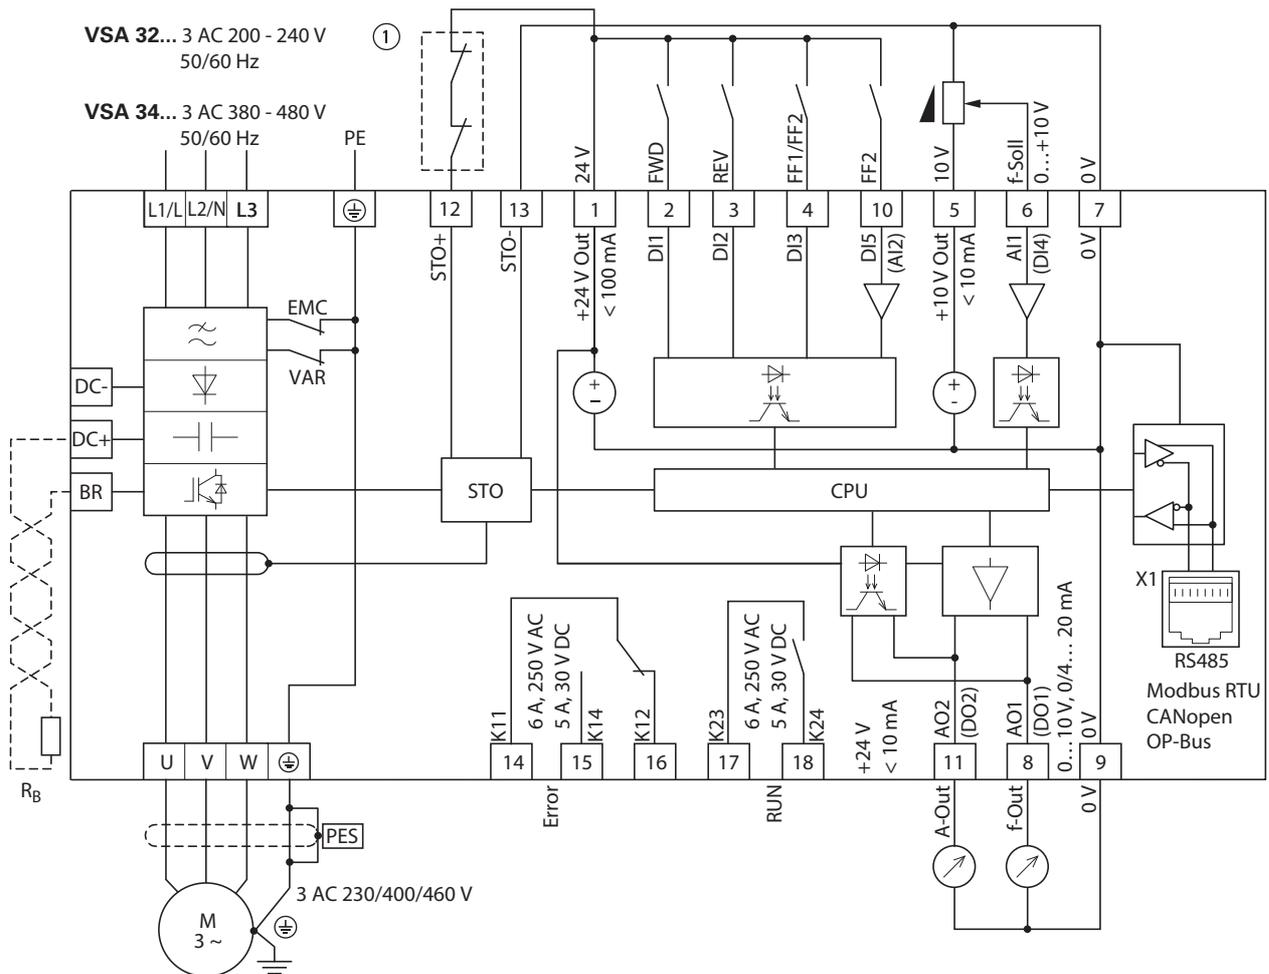

Figure 82: Block diagram for VSA 32..., VSA 34..., FS2 and FS3 frame sizes
① Direct enable signal for STO function or relay: Safe Torque Off (STO), SIL 2 (EN 61800-5-2) as in → Figure 82, page 116.